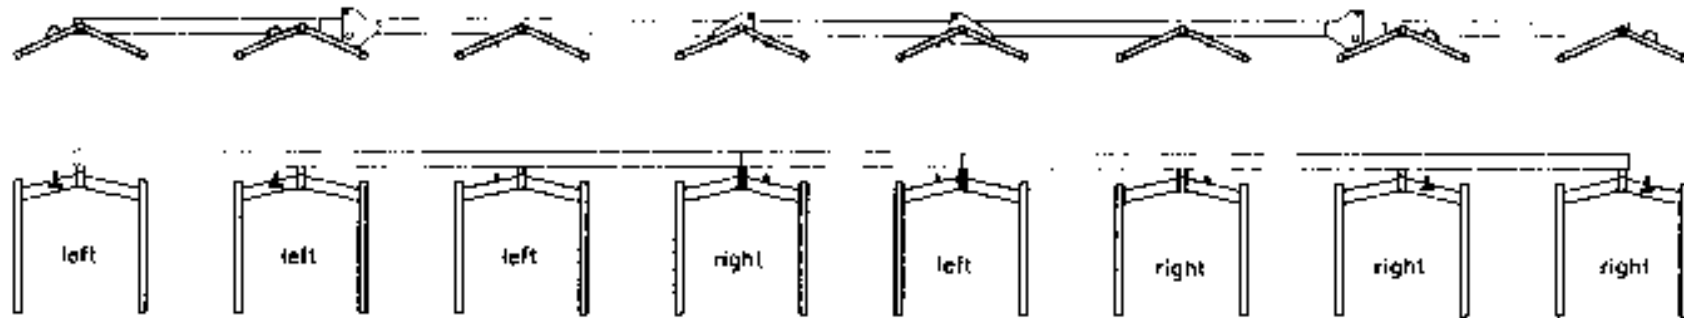

Fig. 2
- D. Fit the carrier forks for the harrow sections **Ref. Fig. 2**, securing with washer and roll pin.
It is important that the carrier frames are fitted in the correct position, with left and right hand forks positioned as shown in Fig. 2